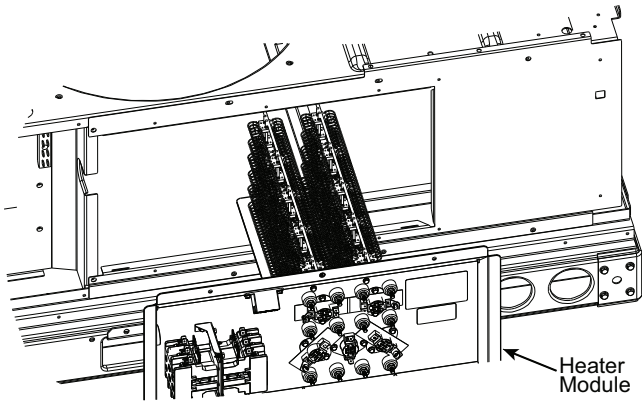

Fig. 13 — Typical Electric Heat Installation
1. Identify heater cover to remove. (See Fig. 13.) Remove heater cover and save cover and screws.